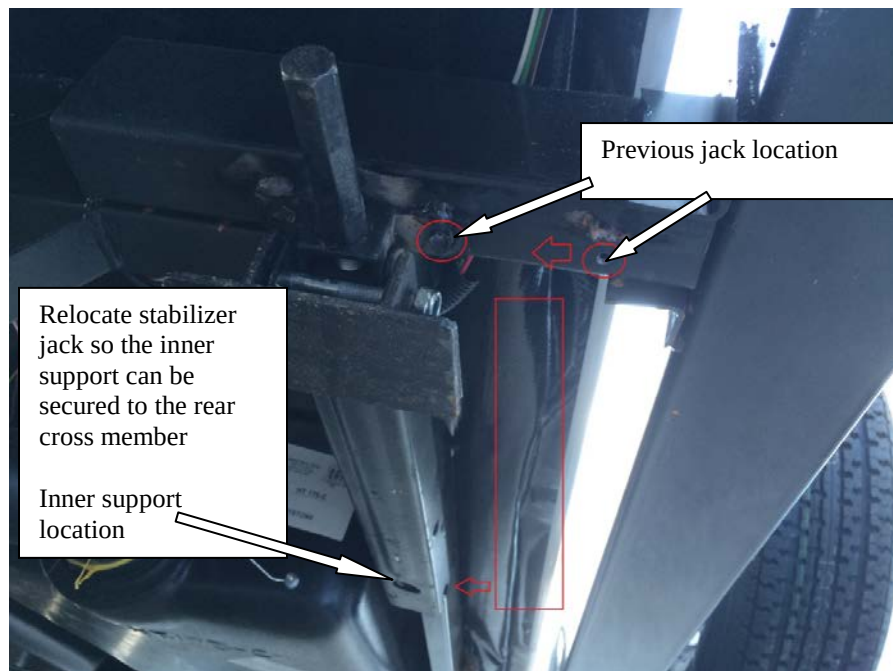

Fig. 1
- Step 4** Secure the inside of the jack to the rear cross member using a 1/4" bolt with washer, and lock nut. Secure the outer mounting bracket to the bumper extension tube with 1/4" self tapping screws. Weld the mounting flange to the bumper extension. See Figure 1.